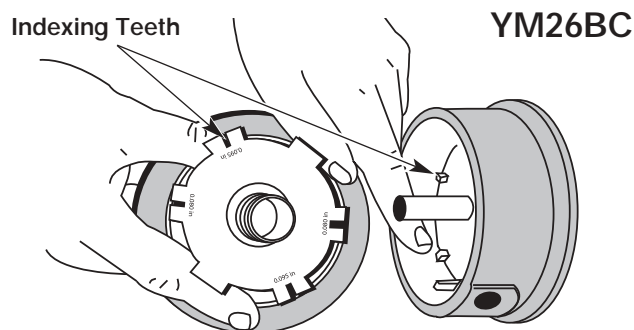

Fig. 34
5. Check the indexing teeth on the inner reel and outer spool for wear (Fig. 34 or 35). If necessary, remove burrs or replace the reel and spool.